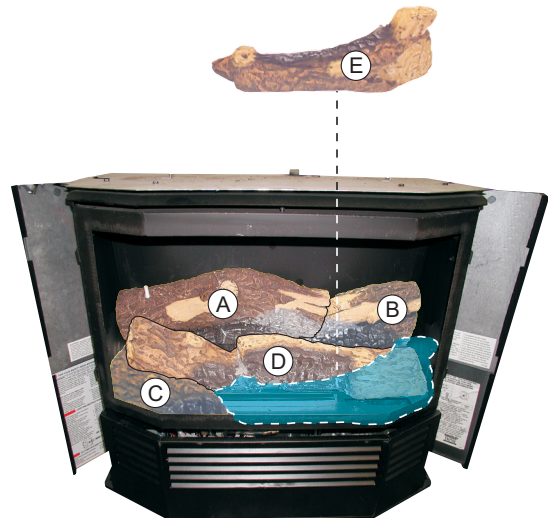

Figure 48
7. Place the Front Right Log (E) in the right front corner of firebox. It should fit snug into the corner. See Figure 48.